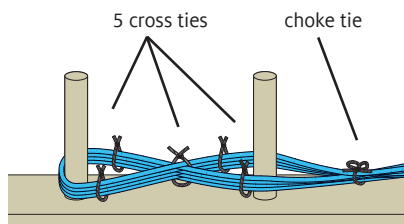

FIGURE 14: SECURE THE WARP AND THE CROSS
6. Secure the cross in five places with loose cross ties, as in Figure 14, using contrasting scrap yarn and overhand knots. Tie choke ties in a second color of scrap yarn, placing them at about 18" inch intervals down the length of the warp chain. Tie all choke ties with tight bow ties to keep the chain from tangling.